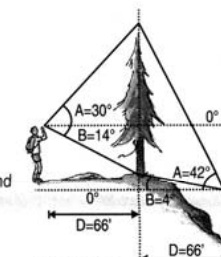

Figure 15
- Use level or sloping ground illustration, and the tangent table to calculate vertical height. (Figure 15)
Height On Level Ground - Figure 15 (Left)
Height On Sloping Ground - Figure 15 (Right)